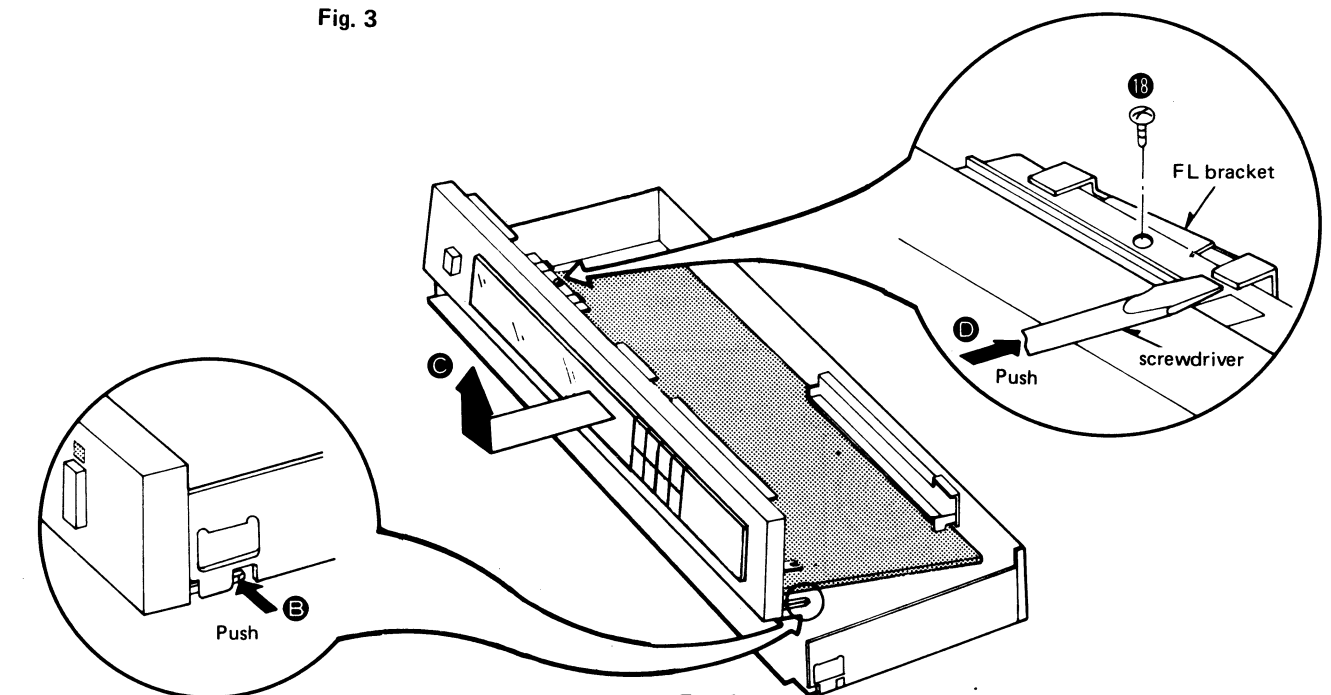

Fig. 4
4. Pressing the 2 claws on the right and left sides of front panel in the direction of arrow B (Fig. 4), remove the front panel along with the P.C.B. in the direction of arrow C (Fig. 4).
2. Remove the set screw (18 in Fig. 4) which fastens the bracket of FL. Next, remove the bracket by pushing it in the direction of arrow D with a screwdriver.